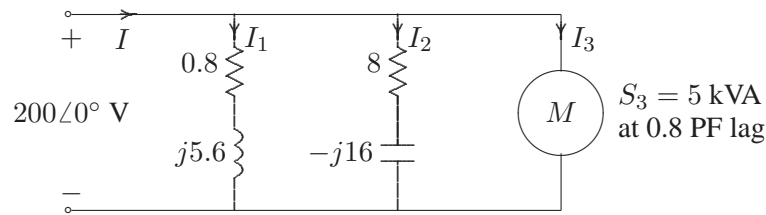

FIGURE 8
2.7. Two impedances, $Z_1 = 0.8 + j5.6 \Omega$ and $Z_2 = 8 - j16 \Omega$, and a single-phase motor are connected in parallel across a 200-V rms, 60-Hz supply as shown in Figure 8. The motor draws 5 kVA at 0.8 power factor lagging.